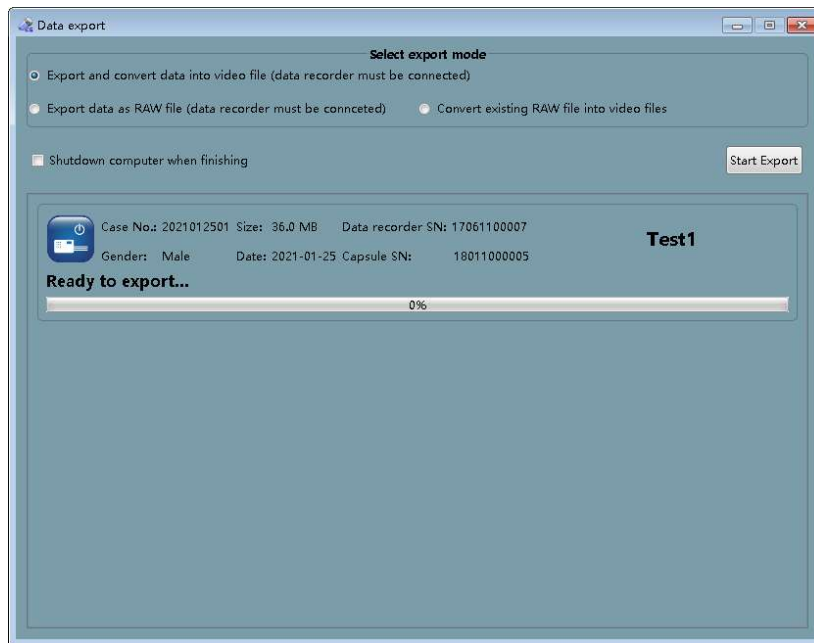

Figure 4-5: Data Export Interface
1. In the main software interface, select “Tool” → “Data export” in the menu to access the data export interface (Figure 4-5)